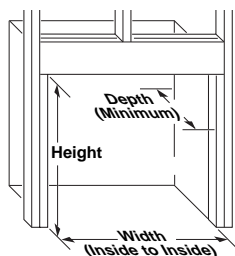
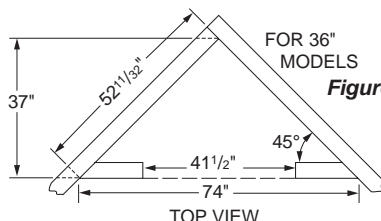

Figure 4a
Figure 4b
1. Frame in rough opening. The fireplace framing should be constructed of 2 x 4 lumber or heavier. Use dimensions in Table 1 and rough opening layout in Figure 4a. Adjust framing so that fireplace is flush with finished wall surface. If installing in a corner, use dimensions in Figures 4b and 4c for rough opening.